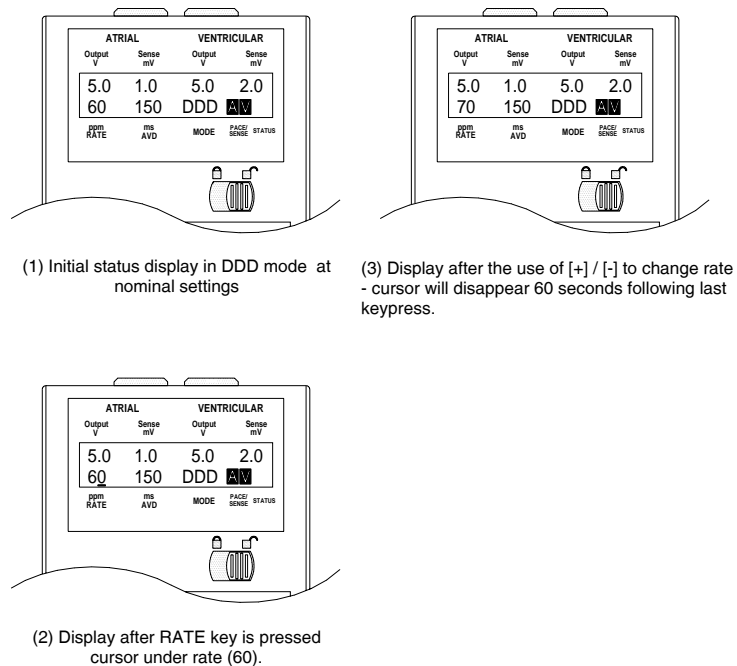

Figure 11.
Each status display parameter has its own dedicated key. To change a displayed value, press the appropriate key and a fixed cursor will appear beneath the value to be changed. Now use the Up (+) or Down (-) key to adjust the selected parameter value. The new value left in the status display will take effect immediately. Confirmation is not required. The cursor will disappear sixty (60) seconds following the last key press. More than one parameter value change may be made sequentially without waiting for the disappearance of the cursor. When programming is complete, lock the keypad to prevent inadvertent changes. The basic process just described is shown pictorially in Figure 11 for a change in rate.